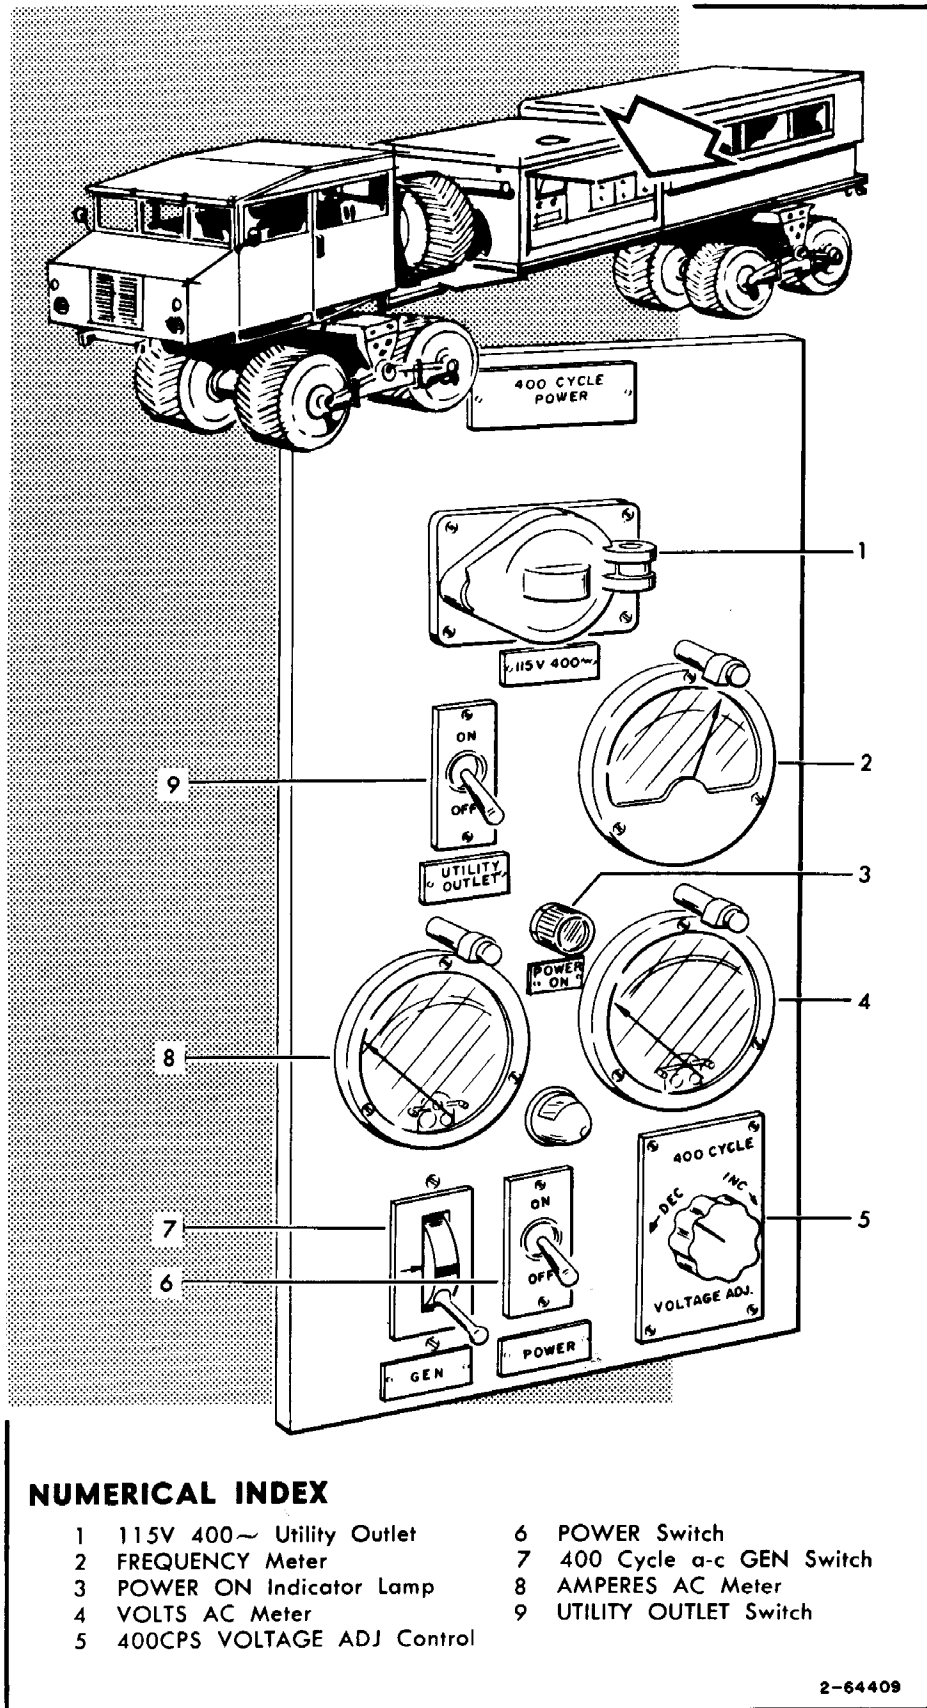

Figure 3-33. 400 Cycle Power Panel
- e. FREQUENCY meter (2, figure 3-33) must indicate between 390 and 410 CPS.